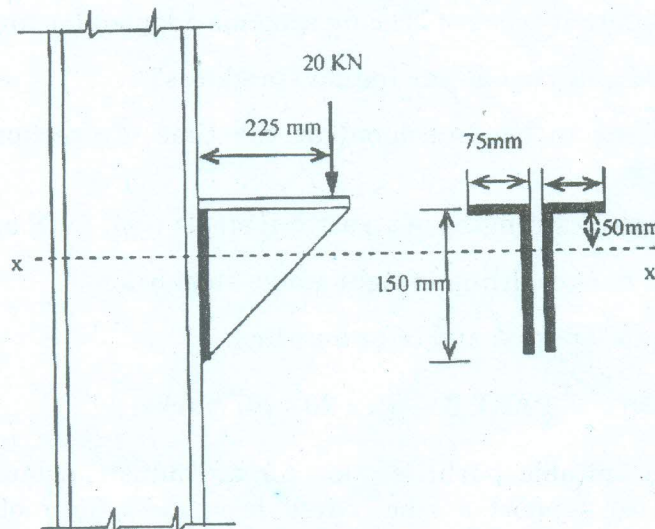

Fig.2
- (b) Determine the size of the fillet weld required for the bracket as shown in Fig. 2. The length of the horizontal and vertical welds are 150 mm and 300 mm respectively. (16)